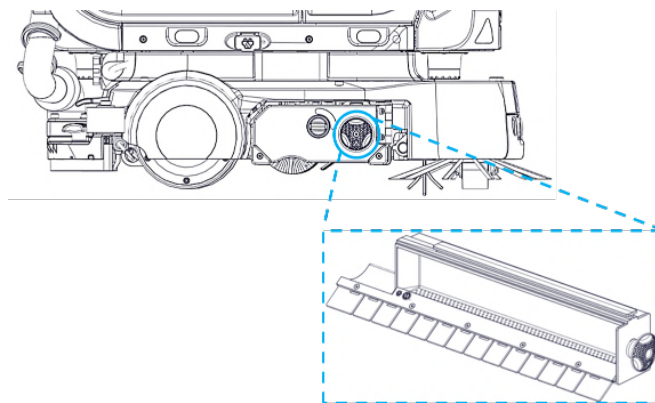

FIGURE 8-1
7. Ensure that the debris tray is emptied and installed correctly in the brush deck (**Fig. 8.1**).